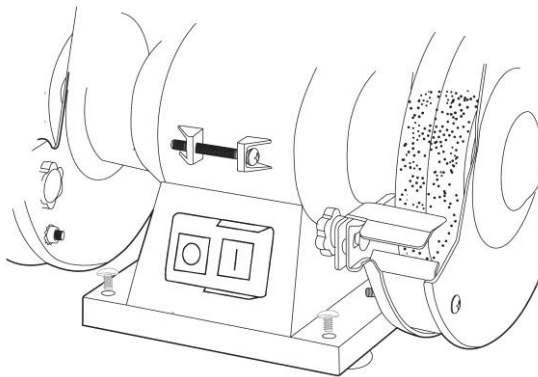

Fig.1
1.First drill four holes. Use the appliance feet (9) as a template to mark the drill holes. Place the double grinder in the desired position and insert a punch or a pen through the holes on the appliance feet to mark the position of the drill holes.
3.Now place the double grinder in position and secure using the appropriate screws and washers (Fig.1).